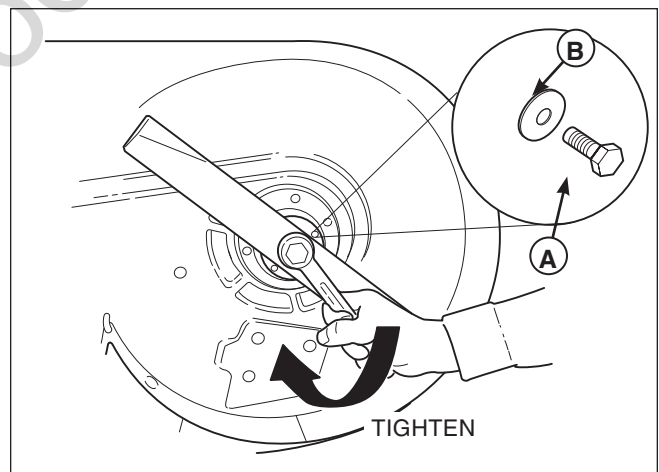

Figure 19. Installing the Blade
7. Reinstall each blade with the tabs pointing up toward deck as shown in Figure 19. The blade spacers, blade, washer and bolt must be reinstalled in the exact same order in which they were removed. Torque bolts to 70-90 ft.lbs. (94-120 N.m.).